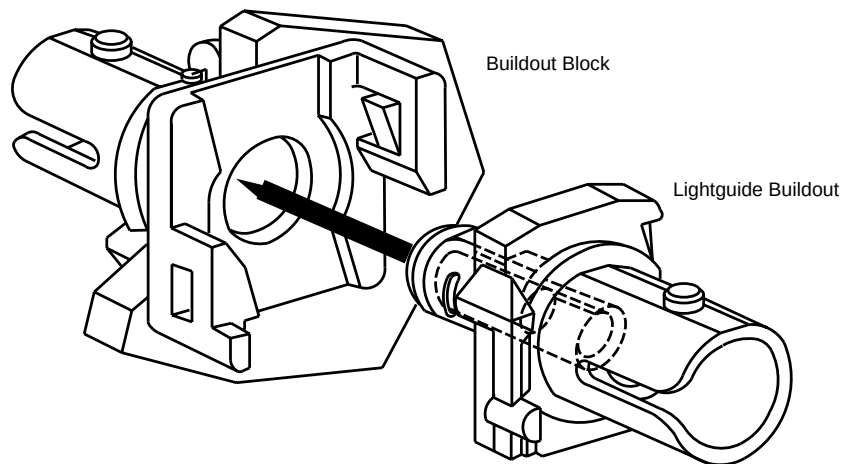

Figure 1. ST[®]-Type Universal Buildout
3. Align lightguide buildout locking tab with slot in buildout block (unlocked position), push in, and rotate clockwise until locked into position. Refer to the appropriate figure (Figure 1, 2, or 3) for the specific buildout type.